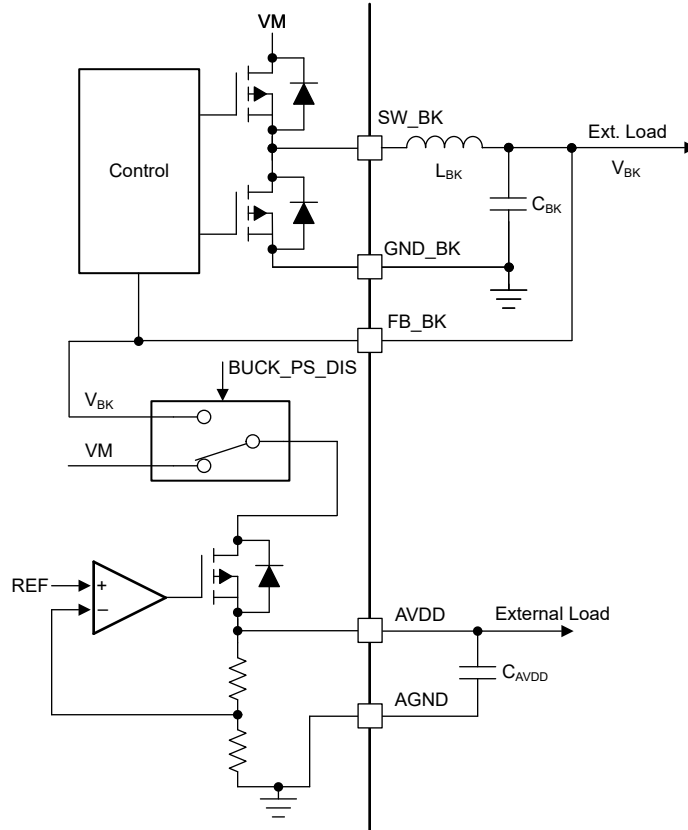

Figure 8-12. AVDD Power Sequencing on mixed mode Buck Regulator
The AVDD LDO has an option of using the power supply from mixed mode buck regulator to reduce power dissipation internally. The power sequencing mode allows on-the-fly changeover of LDO power supply from DC mains (VM) to buck output (VBK) as shown in Figure 8-12. This sequencing can be configured through the BUCK\_PS\_DIS bit . Power sequencing is supported only when buck output voltage is set to 5.0 V or 5.7 V.